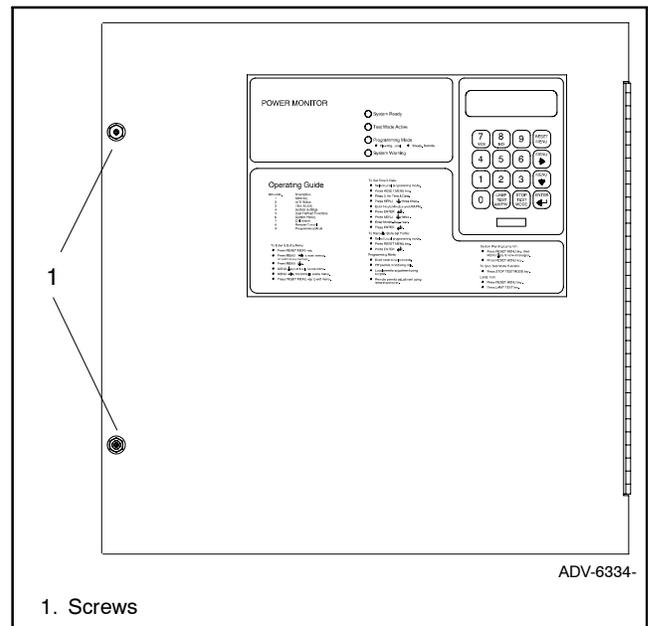

Figure 6 Power Monitor Enclosure Access
9.1 Remove the power monitor access front panel screws. See Figure 6.